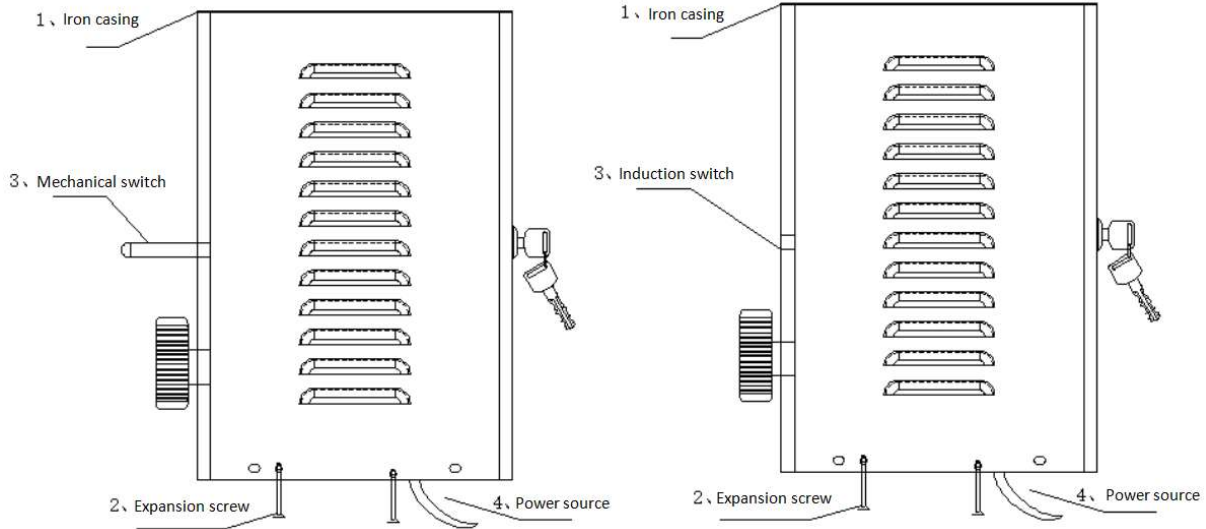
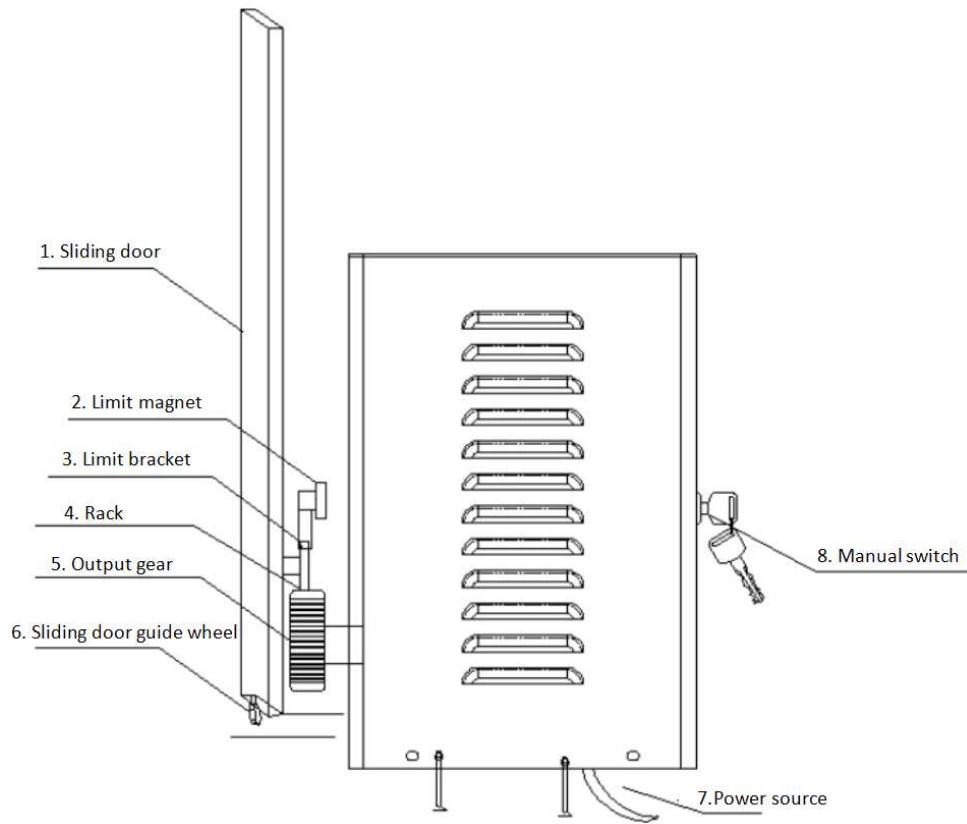
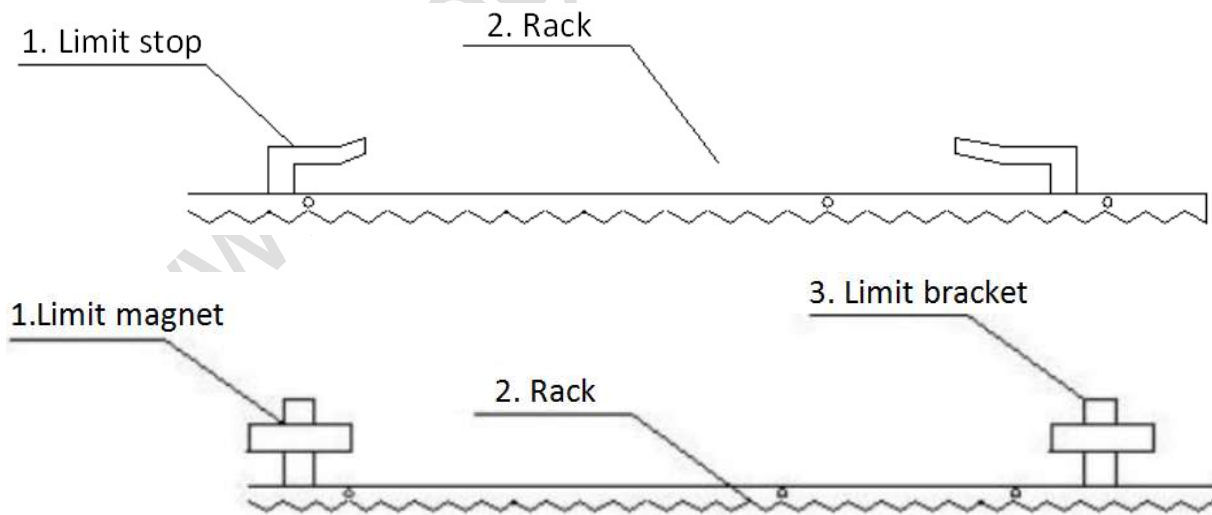

Figure 3
Figure 4
Figure 5
The basic installation of the door opener is shown in Figure 3, there are two limits, you can choose. The position relationship between the door opener and the sliding door is shown in Figure 4. After the cement is solidified, place the door opener on the installation base plate. The installation base plate should be horizontal and adjusted to the appropriate position according to the direction shown in Figure 4. Then tighten the nut on the installation foot to make the door opener firmly connected to the base.
(1) In the position where the output gear and rack can be reliably meshed, the cylindrical nut is welded in the appropriate position at the lower part of the translation door and then the rack is bolted on the round bolt nut.
(2) Adjust the position of the rack to ensure the engagement between the rack and the gear gap, and the engagement gap should be maintained at 1 mm.
(3) Install the magnetic switch as shown in Figure 4 and Figure 5. The main engine is equipped with a magnetic induction (or spring) switch. Control the correct position for opening and closing doors. Use the special key to open the clutch control compartment, and then use the clutch handle to unload the clutch of the door opener (turn the handle straight to 90 degrees); Push the sliding door to the appropriate limit position at both ends manually, and preliminarily fix the assembled translation door limiter on the rack at both ends; (As shown in Figure 5) Please refer to the circuit board manual for details of the circuit installation and debugging.